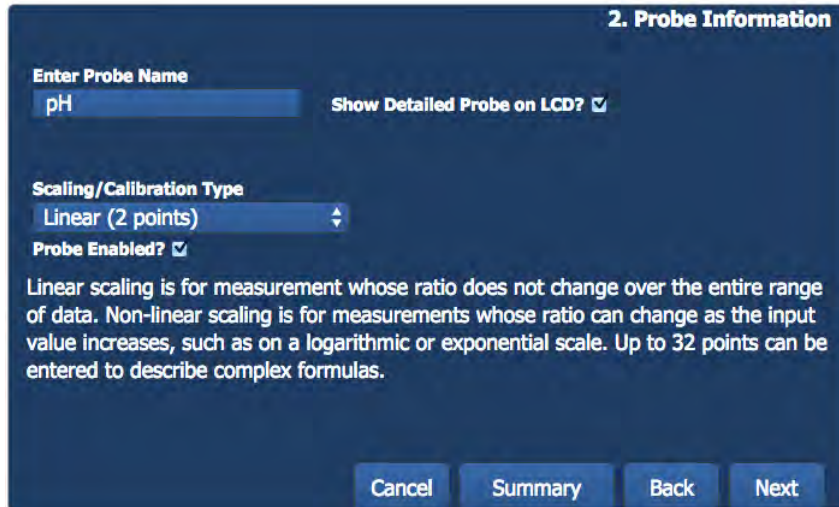

Figure 6-3 – After choosing the connector to which the probe attaches choose a name for the probe and the type of scaling.
In the **Enter Probe Name** field write a short descriptive name for the probe. In the example shown in Figure 6-3, the probe is simply titled “pH.”
1. Choose **Non-Linear (up to 32 points)** in the Probe Information window (Figure 6-3).